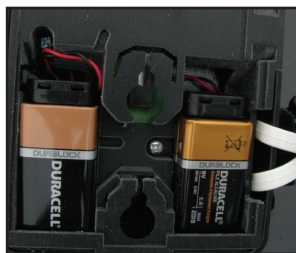

Figure 7
6. Place 2 new fresh alkaline 9 V batteries into the 2 slots, connecting the terminals to the provided connectors (Figure 7).